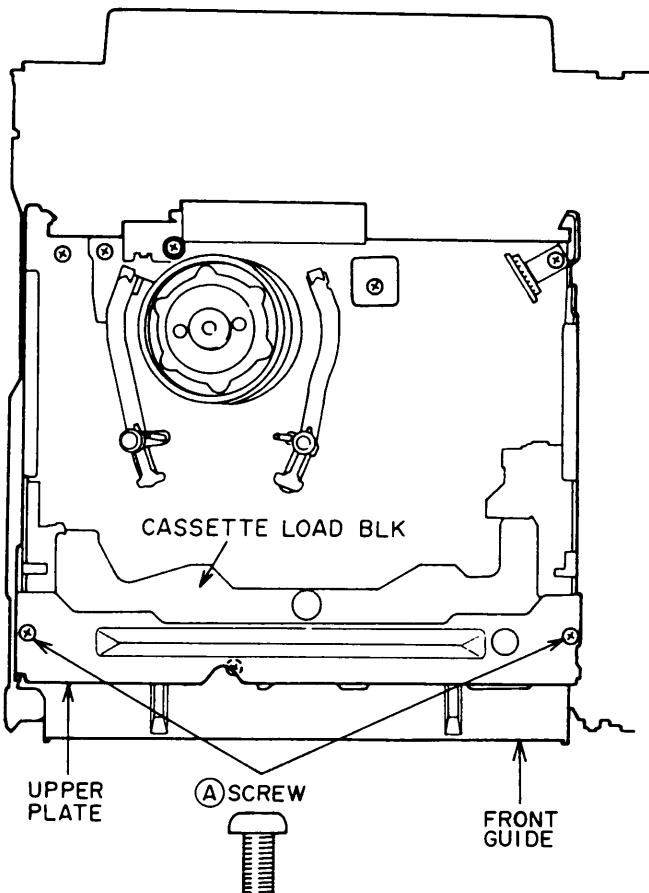

Fig. 4-1
- 1) Remove the two Ⓐ screws on the UPPER PLATE as shown in Fig.4-1 then remove the UPPER PLATE.